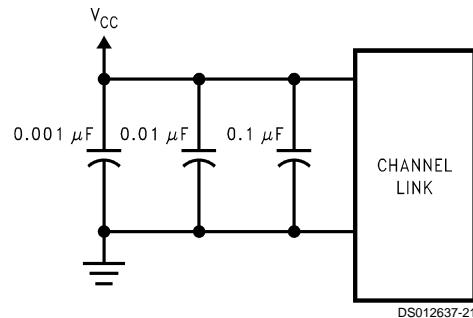

FIGURE 19. CHANNEL LINK
**DECOUPLING CAPACITORS:** Bypassing capacitors are needed to reduce the impact of switching noise which could limit performance. For a conservative approach three parallel-connected decoupling capacitors (Multi-Layered Ceramic type in surface mount form factor) between each  $V_{CC}$  and the ground plane(s) are recommended. The three capacitor values are  $0.1\ \mu F$ ,  $0.01\ \mu F$  and  $0.001\ \mu F$ . An example is shown in Figure 19. The designer should employ wide traces for power and ground and ensure each capacitor has its own via to the ground plane. If board space is limiting the number of bypass capacitors, the PLL  $V_{CC}$  should receive the most filtering/bypassing. Next would be the LVDS  $V_{CC}$  pins and finally the logic  $V_{CC}$  pins.